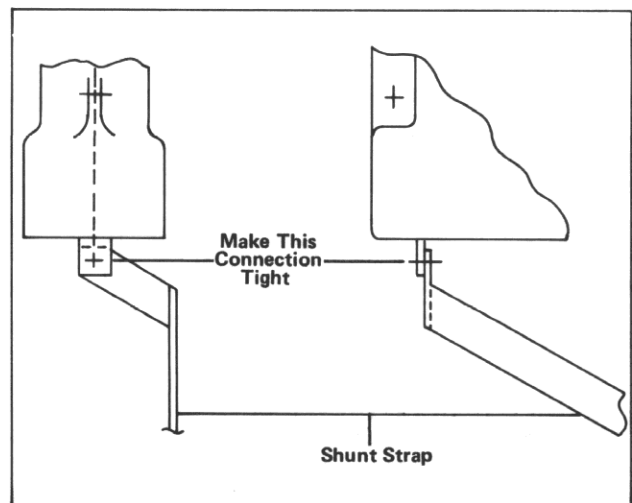

**Fig. 46** *Mount Arc Chute*
**MOUNTING ARC CHUTE (FIG. 46)**